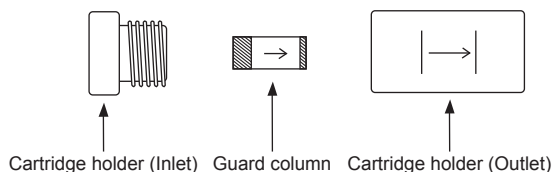

Figure 2 Column Parts
- (1) Confirm the correct product name is listed on the column label.
- (2) Each column is equipped with a union nut enabling a connection to a 1/16" O.D. capillary tubing. The union nut is designed for American standard compression plugs and ferrules.
- (3) Confirm the flow direction on the column label or etched onto the column as shown in Figure 2. Solvent should flow only into the column from the inlet side. The columns are designed so that optimal resolution is obtained when the flow direction is as indicated on the column.
- (4) Purge all air out of the tubing using the mobile phase. This helps to prevent any air from entering the column. Any air in the tubing causes serious deterioration of column efficiency.
- (5) Initially set the solvent flow rate at one-half of the intended flow rate. Make sure that the solvent is flowing freely out of the end of the tubing from the injector.
- (6) Remove the end plugs from the column and connect the inlet of the column to the tubing from the injector. Make sure that the tubing is fully inserted into the compression fittings before tightening in order to minimize dead volume. Always keep dead volume to the absolute minimum throughout the entire system.
- (7) After the solvent flows from the outlet of the column, connect the column to the detector.
- (8) Start pumping the solvent at a flow rate less than one-half of the final flow rate. Avoid a sudden pressure surge to the column.
- (9) The columns are very sensitive to pressure pulsing. A pulseless pumping system should be used.
- (10) The columns should be equilibrated before use by allowing at least 10 column volumes of solvent to pass through the column.
- (11) The product name is not marked on the guard column (2.0 mm(I.D.)×1 cm(L)). Please make sure the product name on the package label. It has some lines on the body. (TSKguardgel Amide-80 3 μm : 4 lines, TSKguardgel Amide-80 5 μm : 5 lines)
- (12) The following are recommended parts to connect the semi-micro column (1.0 mm(I.D.)) of TSKgel Amide-80 5 μm with tubing.